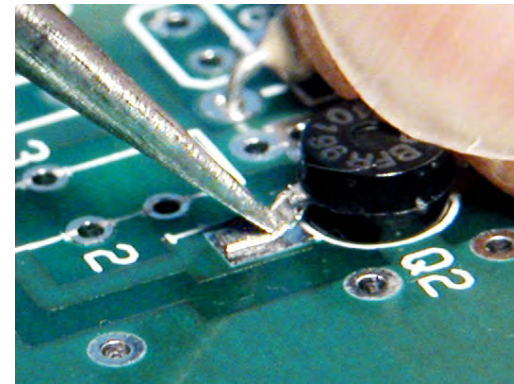

Figure 17. Installing Transistor Q2. Use gentle pressure with a small screwdriver blade to form the leads.
- Gently bend the leads down so they make solid contact with the PCB starting close to the body of the transistor. This is easily done by pressing down on the lead with a small flat-blade screwdriver (see Figure 17).